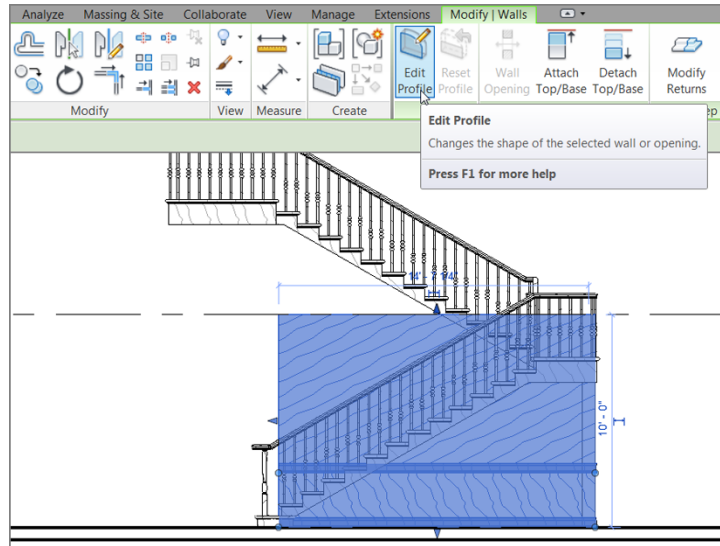

FIGURE 16.13: Selecting the wall to be modified, and clicking the Edit Profile button
4. Select the wall, as shown in Figure 16.13.
5. On the Mode tab, click Edit Profile (see Figure 16.13).